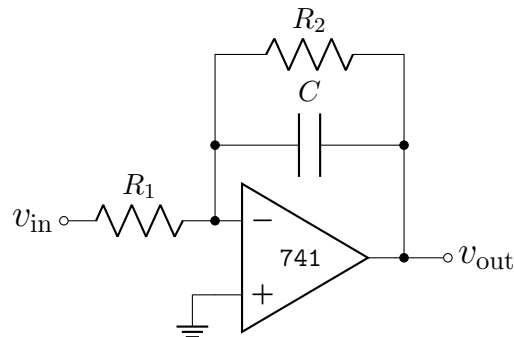

Figure 4: “Integrator” amplifier
5. Construct the integrating amplifier circuit shown in Fig. 4 with  $C = 100 \text{ nF}$ ,  $R_1 = 10 \text{ k}\Omega$  and  $R_2 = 200 \text{ k}\Omega$ . Set the function generator to produce a square wave with  $f = 1 \text{ kHz}$  and  $|v_{\text{in}}| = 2.0 \text{ V}$  peak-to-peak.